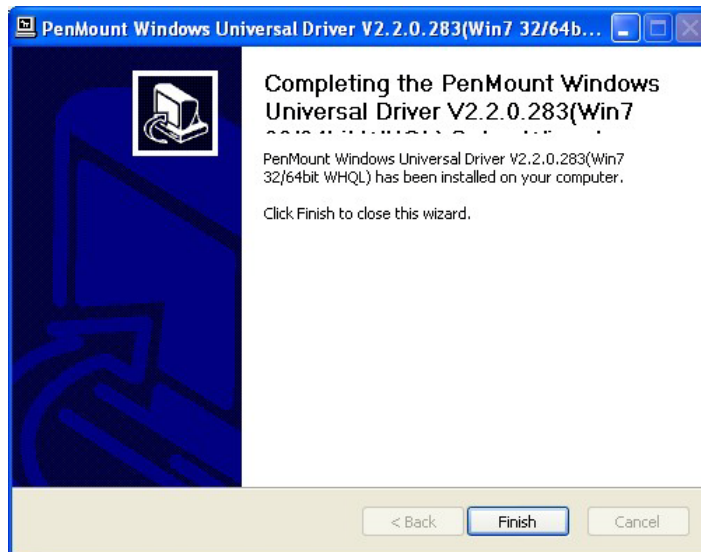

Figure 7-6: Finish Installation
Step 16: When the installation is complete, the complete screen appears. See **Figure 7-6**.